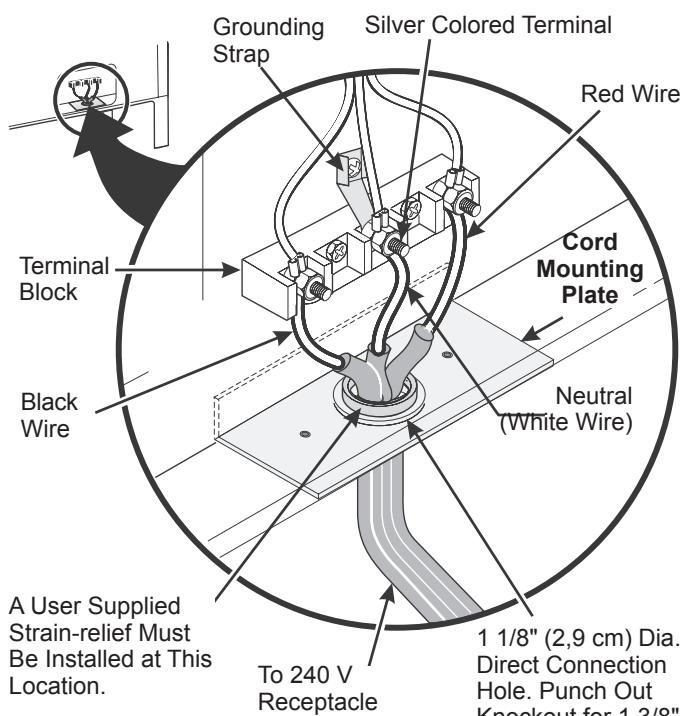

Figure 3
If local codes permit connection of the frame grounding conductor to the neutral wire of the copper power supply cord (see Figure 3):
2. Using the nuts supplied in the literature package, connect the neutral of the copper power supply cord to the center silver-colored terminal of the terminal block, and connect the other wires to the outer terminals. Match wires and terminals by color (red wires connected to the right terminal, black wires connected to the left terminal) (see figure 3).